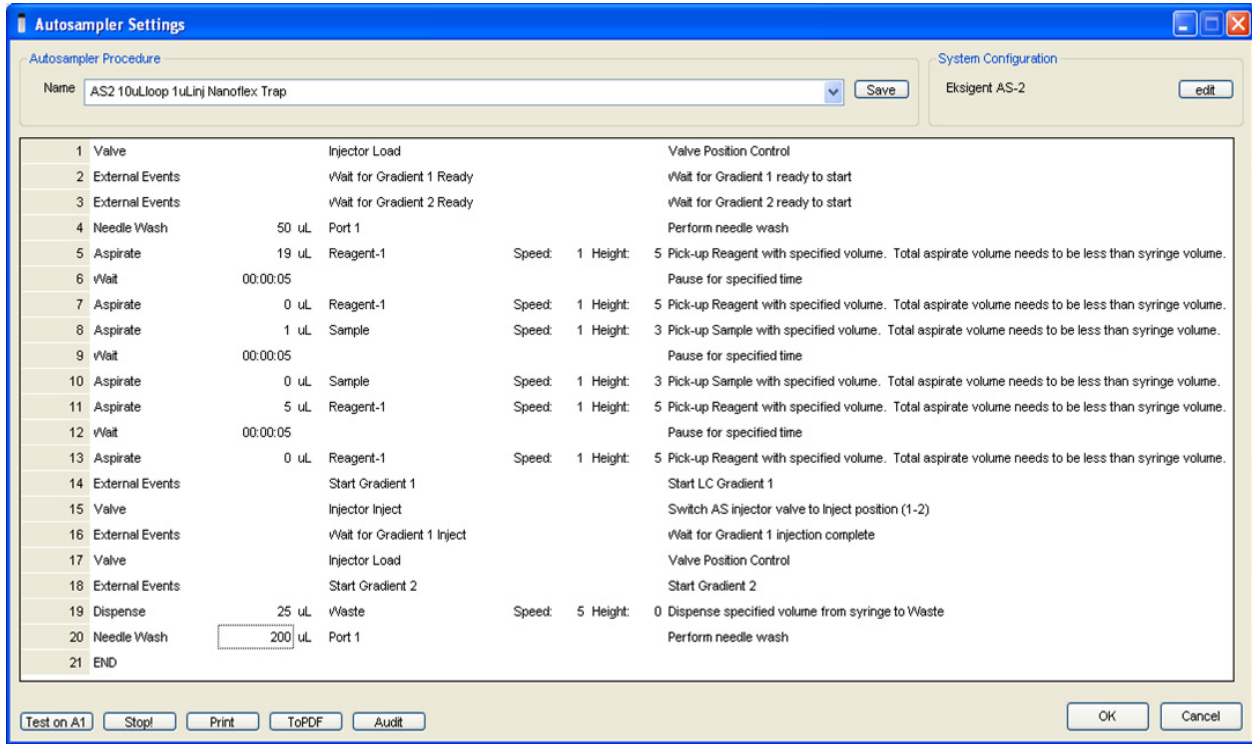

Figure 1-1 Autosampler Settings dialog—trap-elute configuration (Nanoflex system)
3. Create the autosampler method for a trap-elute configuration, as shown in Figure 1-1.